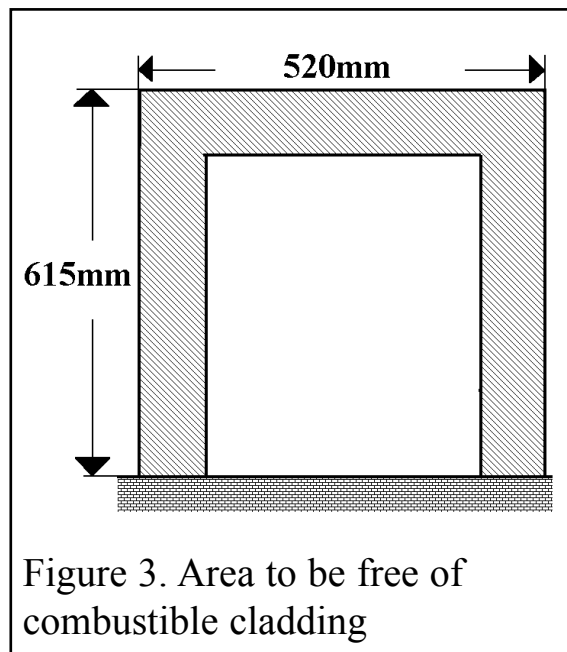

Figure 3. Area to be free of combustible cladding
4.14 If the fire is to be fitted against a wall with combustible cladding, the cladding must be removed from the area shown in figure 3.